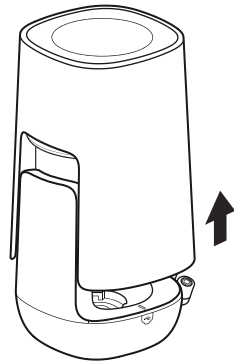

Figure 5.10 – Removing Shroud
2. Remove shroud by lifting shroud straight up and away from the filter base (see Figure 5.10).